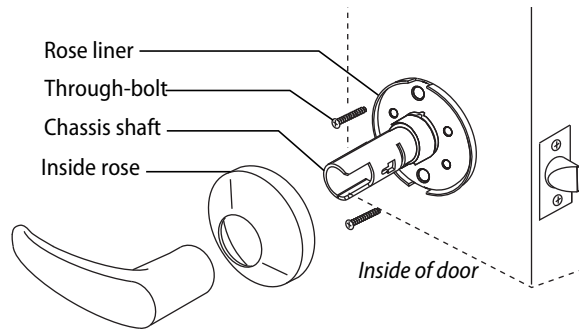

Figure 15 Installing the through-bolts and rose liner
- 1 Place the inside rose liner on the chassis, aligning the holes in the rose liner with the holes prepared in the door as shown in Figure 15.